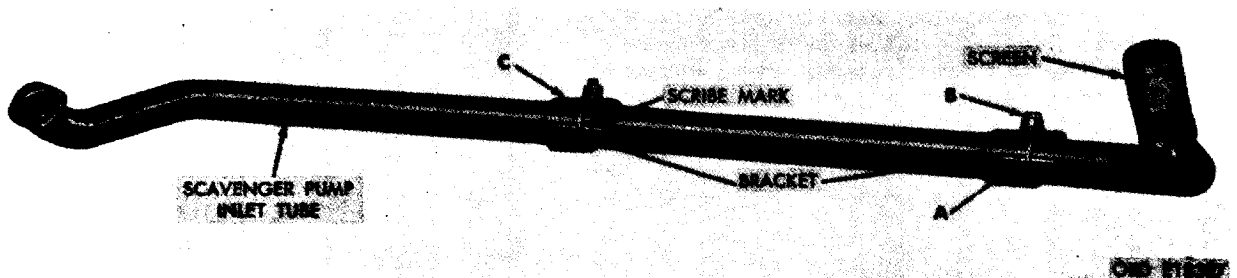

FIGURE 379. REMOVING OR INSTALLING SCAVENGER OIL PUMP INLET TUBE BRACKETS,
a. Disassembly. Figure 379. (A) Scribe alignment marks across scavenger oil pump inlet tube brackets and inlet tube to insure proper assembly. (B) Remove 1/4-inch plain nuts, 1/4-inch lock washers, and 1/4 x 5/8 cap screws securing bracket to the scavenger oil pump inlet tube. Spread bracket to remove. (C) Remove the remaining bracket in the same manner.
- (2) Inspection. Inspect scavenger oil pump inlet tube (J) for dents, cracks, loose flange, and flattened areas. Check inlet tube screen for cracks. Check mounting flange with a straight edge for warpage. Inspect both brackets (L) for cracks and deformity.
c. Repair. Correct minor warpage of the mounting flange of the scavenger oil pump inlet tube (J) by working the flange across a sheet of crocus cloth held tightly on a flat surface. Replace inlet tube that is damaged, broken, or unserviceable. Replace damaged or unserviceable inlet tube bracket (L).
d. Assembly. Refer to figure 379 and reverse the sequence of instructions to assemble the scavenger oil pump inlet tube.